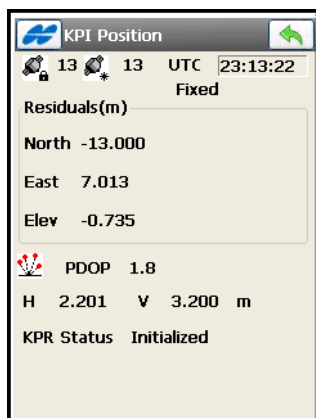

Figure 8-40. Known Point Initialization Position
- **Initialize** – sends the information to the Rover receiver. After the initialization is carried out, the **KPI Position** screen will display results (Figure 8-40 on page 8-38).
The **KPI Position** screen will display results of known point initialization: the solution status, position residuals, precision data, and status of initialization of the rover receiver (Figure 8-40).